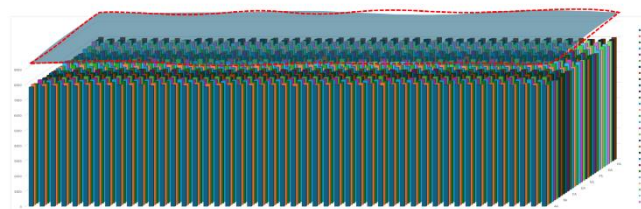

Figure 2: 1536 MWP filled with 8 μ l (ACC -0.81%, CV 0.91%)
- Data confirmed uniform dispensing of 8 μ l across all wells (Figure 2).